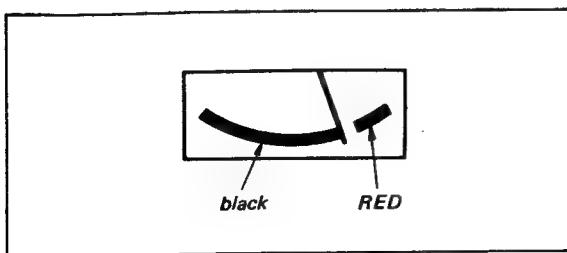

Fig. 7-2. Meter setting
3. Adjust R532 so that the pointer of the level meter reads on the right edge of the black zone, as shown in Fig. 7-2.